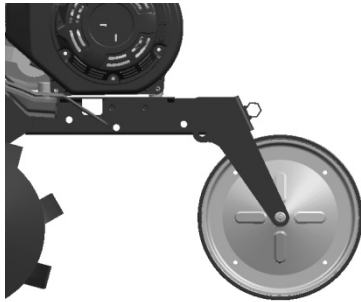

Figure 15
- 1) Adjust front wheel of tiller to the state shown in Fig. 15 when it is going to drive on the road.